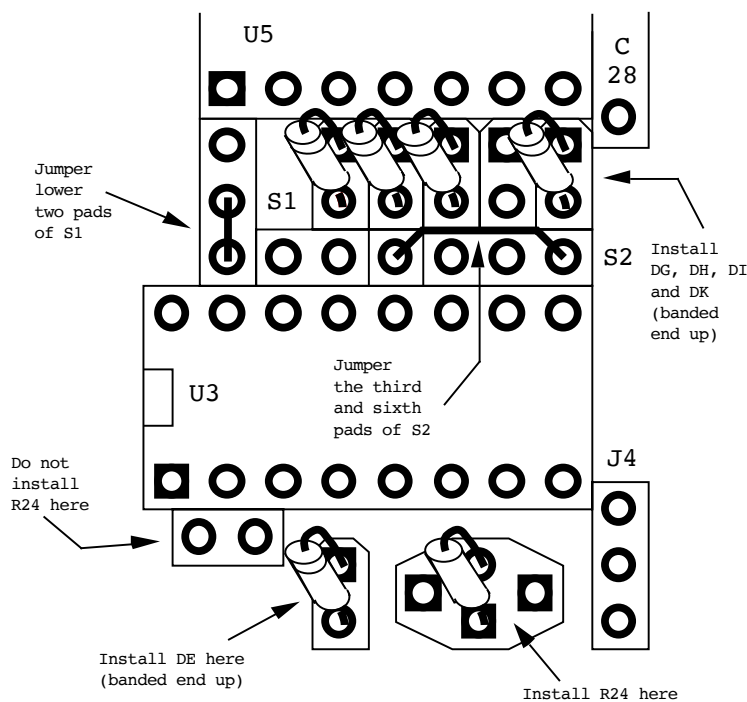

Figure 2 : Timing Configuration
- 15 Do not install resistor R24 in the indicated position on the circuit board labeling. Instead, install R24 in the position indicated in figure 2.
- 20 Using cut off leads, install the two jumpers shown in figure 2. Be sure the jumpers do not touch any pads underneath them (that is, the arc over pads they are not connected to).